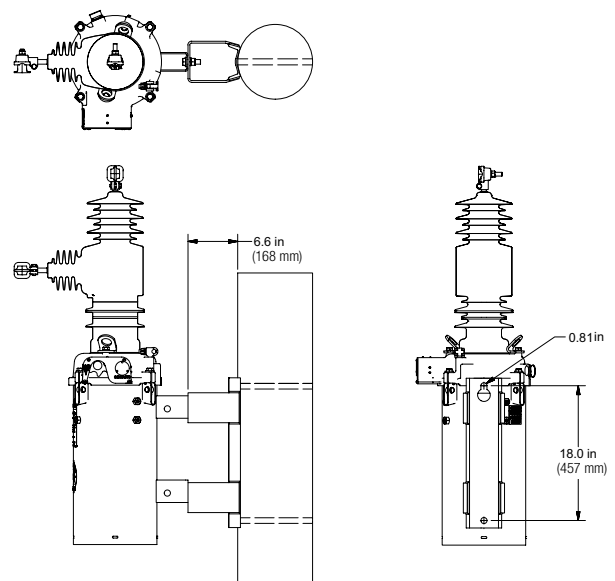

Figure 32.
4. Locate the white Discharge button on the actuator circuit board. See Figure 32.